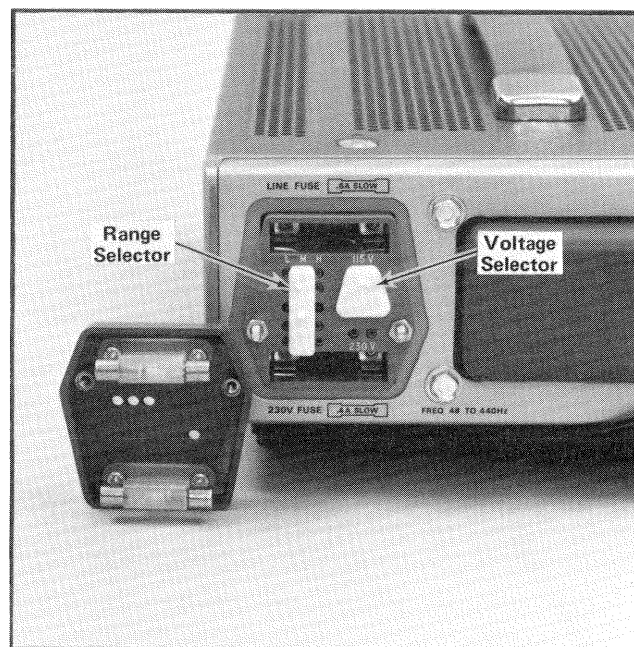

Fig. 2-1. Line Voltage Selector assembly on the rear panel (shown with the cover removed).
2. If the voltage selector must be changed, from either 115-volt to 230-volt or 230-volt to 115-volt nominal line voltage, pull out the Voltage Selector bar (Fig. 2-1) turn it 180° and plug it back into the holes provided. Change the line-cord power plug to match the power source receptacle or use a 115-to-230-volt adapter.
3. Pull out the Range Selector bar (Fig. 2-1) and re-insert it in one of the three positions that covers the line voltage range of the source to which the instrument will be connected.
1. Set the Line Voltage selectors to the appropriate position for line voltage power source (see Fig. 2-1) and plug the power cord into the source. Turn the POWER switch ON.